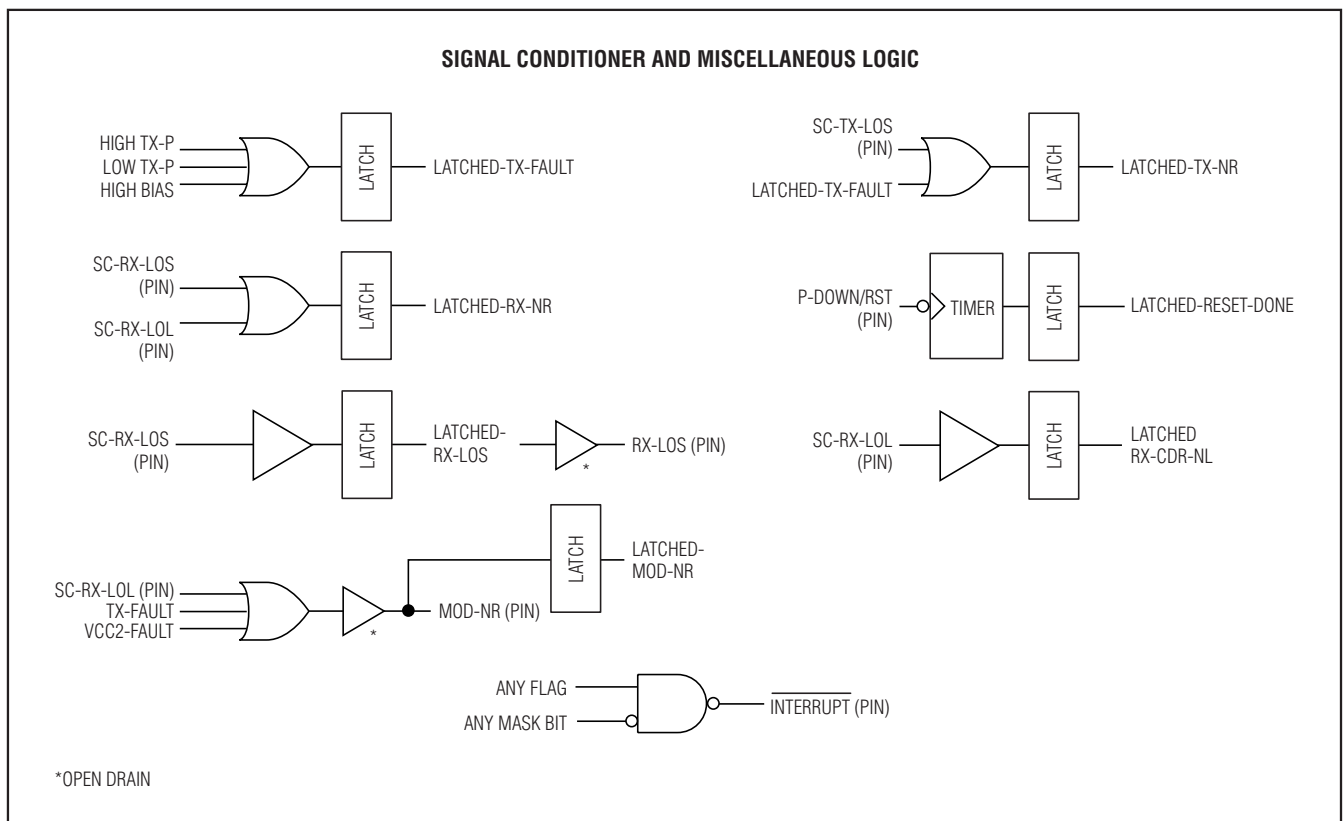

Figure 11. Signal Conditioner and Other Logic
The DS1862 also has flags that are set by certain logical conditions on signal conditioner (SC) pins: SC-RX-LOL, SC-RX-LOS, SC-TX-LOS. Similarly, for each latched signal conditioner flag there are also mask bits that are capable of preventing the alarm or warning flag from causing an  $\overline{\text{INTERRUPT}}$  pin to assert. Again, flags are cleared automatically whenever their memory address is read. See Figure 11 for more detail.